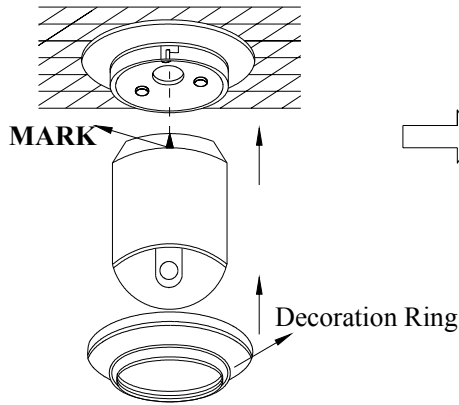

Figure 15
- 3) Aiming the “MARK” on the dome at the notch on the pedestal, push the dome upward to the end and rotate clockwise until it is clicked ( Figure15 ) .
- 4) Put the decoration ring near the ceiling and rotate it clockwise until it is tightened ( Figure15 ) .